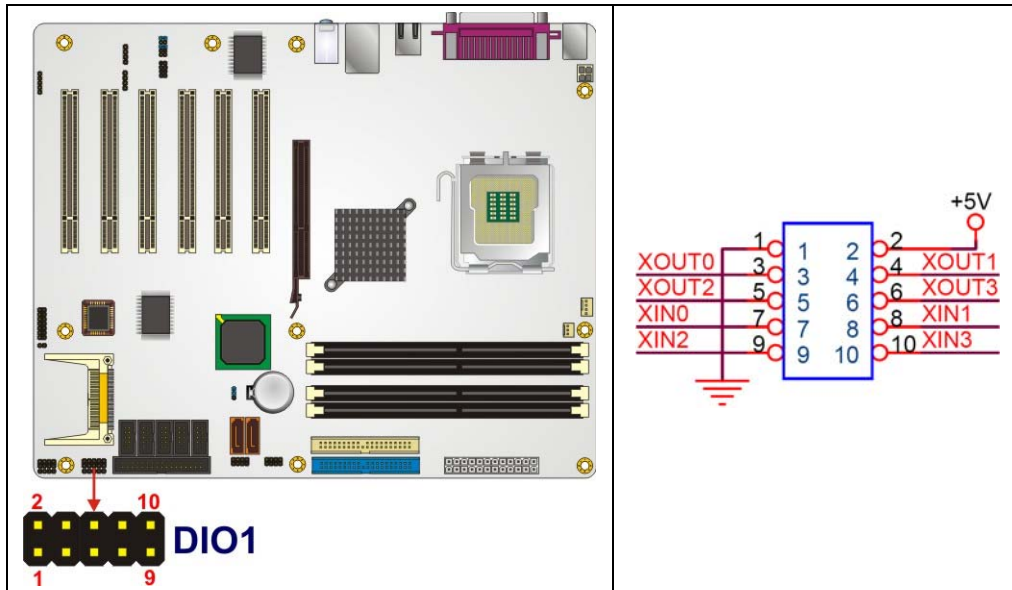

Figure 4-9: DIO Connector Locations
- CN Location:** See **Figure 4-9**